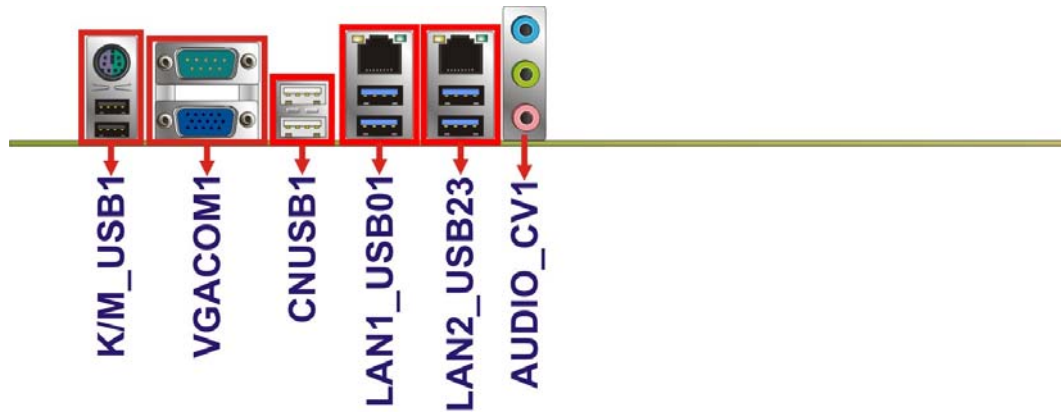

Figure 3-29: External Peripheral Interface Connector
- CN Location: See **Figure 3-29**
CN Location: See **Figure 3-29**